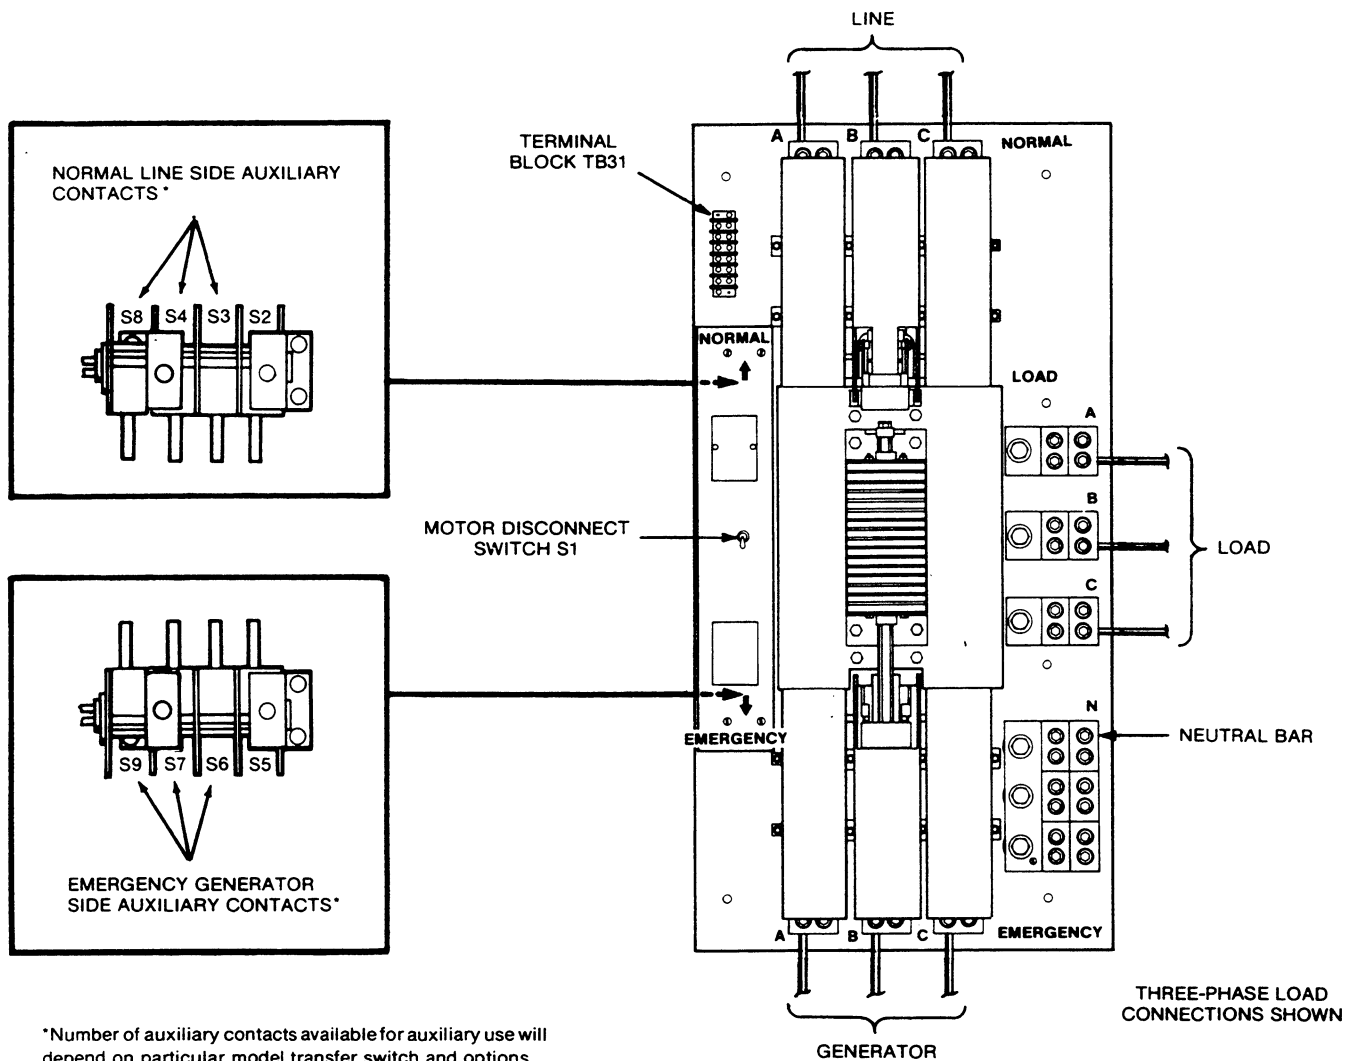

FIGURE 4. TRANSFER SWITCH WIRE CONNECTIONS
4. Neutral Bar (if used): Connect the neutral wires to the neutral bar (Figure 4). Table 2 lists the wire sizes and types the neutral bar accepts.
10. Auxiliary Contacts (if used): Auxiliary contacts are located on the normal and emergency sides of the transfer switch for external alarm or control circuitry. To gain access to the auxiliary contacts, remove the transfer switch cover which houses the motor disconnect switch S1 (cover held in place by four screws). See Figure 4. The contacts have ratings of 25 amperes at 125, 250, or 480 VAC; 1 horsepower at 125 VAC; 2 horsepower at 250 VAC or 480 VAC; and a pilot duty rating of 750 VA at 277 VAC maximum.